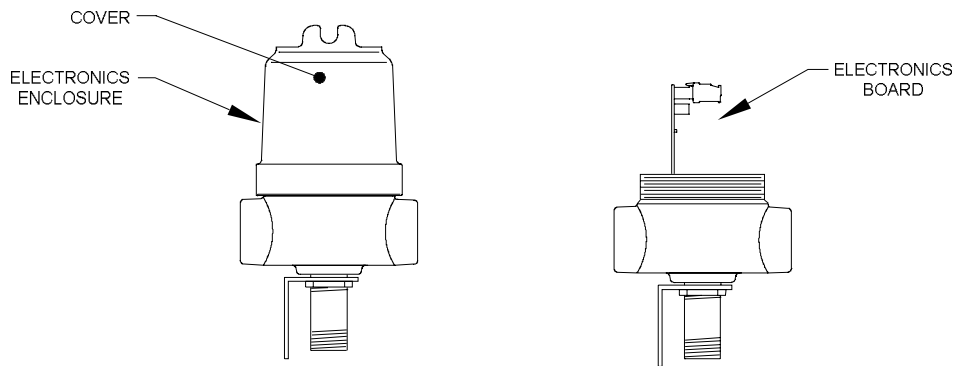

Figure 58: Removing the electronics enclosure cover
2. Remove the cover from the electronics enclosure: rotate it in a counter-clockwise direction to unscrew it from the base. The electronics board is exposed when the cover is removed (Figure 58).